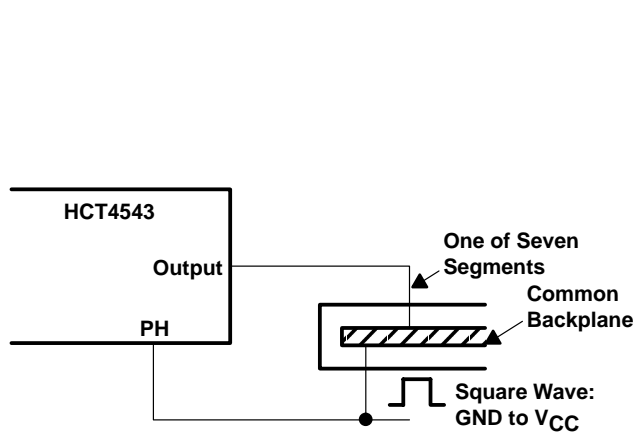

Figure 2. Connection to Liquid-Crystal Display (LCD)
**switching characteristics over recommended operating free-air temperature range (unless otherwise noted) (see Figure 2)**